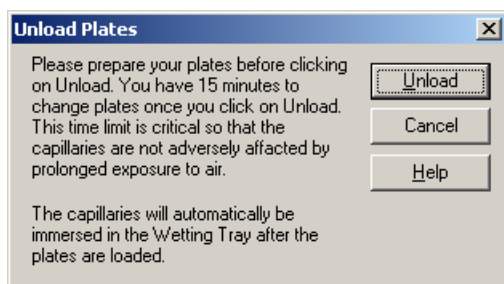

Figure 1.18 Unload Plates Dialog
4. Click **Load Plates**. The dialog in Figure 1.18 will appear.